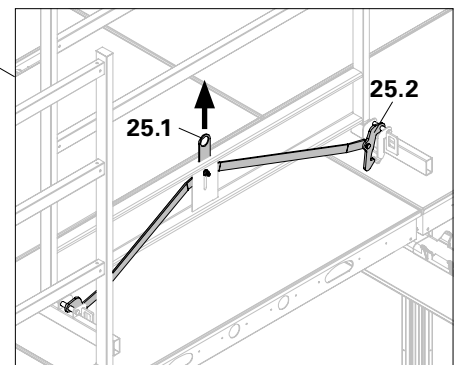

Fig. A8.07
1. Pull lug (25.1) upwards. (Fig. A8.07)